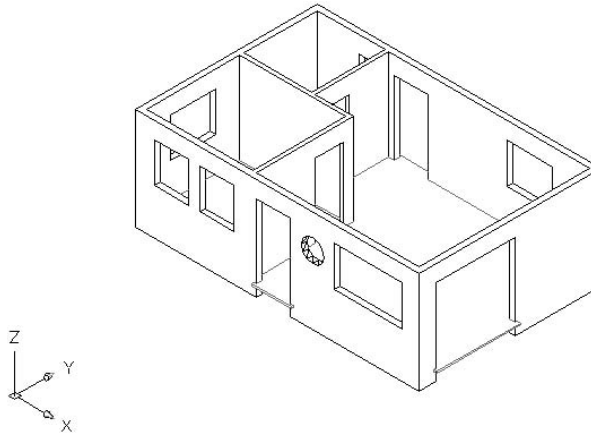

FIGURE A.15: The 3D walls and floor after a Hide
10. Choose View > Hide. The drawing should look like Figure A.15.